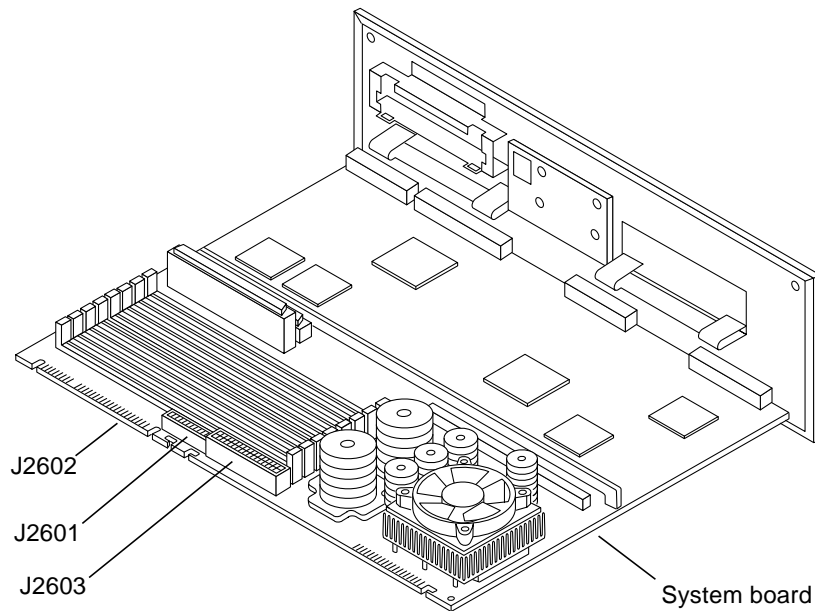

Figure 2-11 Disconnecting Connectors from the System Board
1. **Disconnect the DC power cables from the system board at J2601 and J2603 (Figure 2-11).**
2. **Disconnect the flat ribbon SCSI cable from the system board at J2602 (Figure 2-11).**